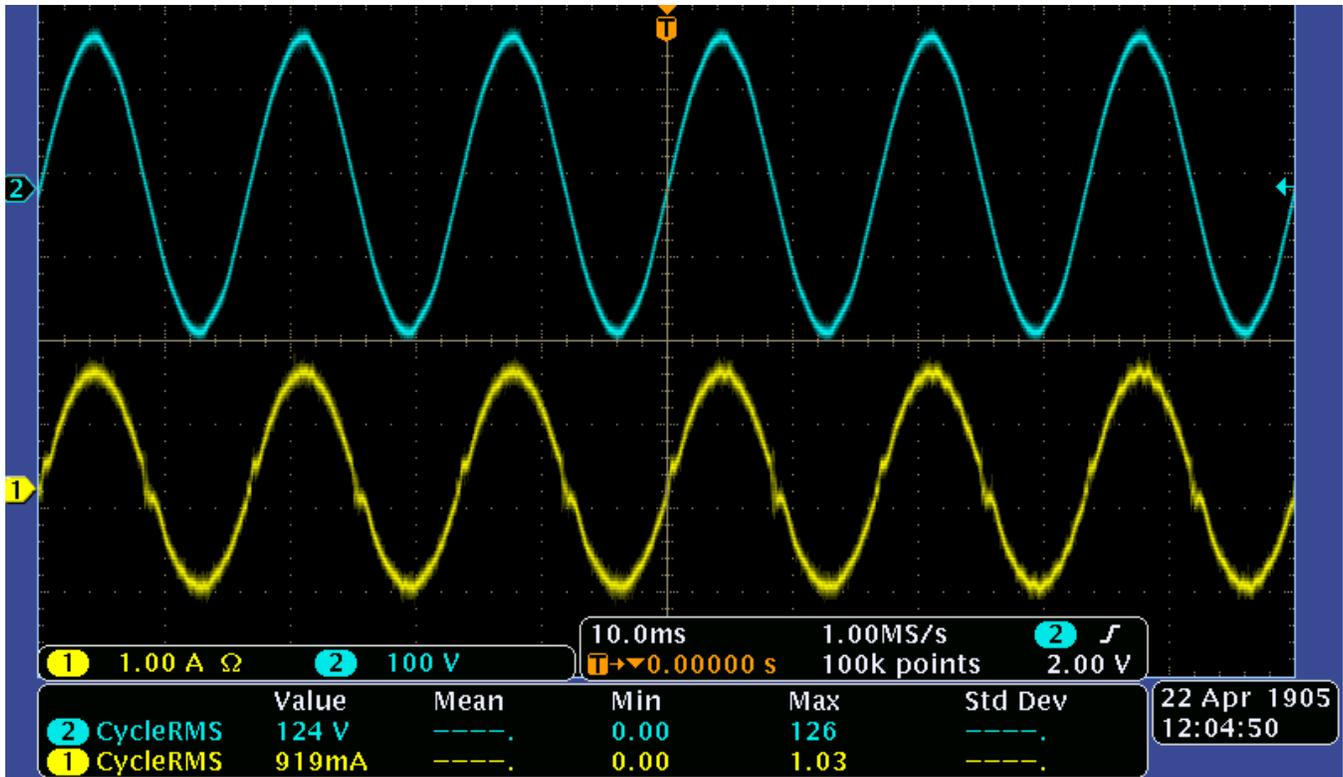

Figure 51. Build Level 3, Grid Connection Check Voltage and Current Waveform Scope Capture
- Note that the current from the panel slowly increases to the MPP. If a PV panel emulator is used, different shading conditions can be tested and the transient behavior also evaluated. Note that the DC bus is regulated at around 275V. This is specified in the SolarMicroInv-Settings.h file, irrespective of the current command from the DC power supply. Figure 51 shows the waveform of grid voltage and inverter current fed into the grid when connected to a ~120 W MPP panel emulator.